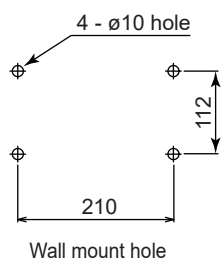

Figure 3.8 Mounting holes
- (1) Drill mounting holes through the wall as shown in Figure 3.8.